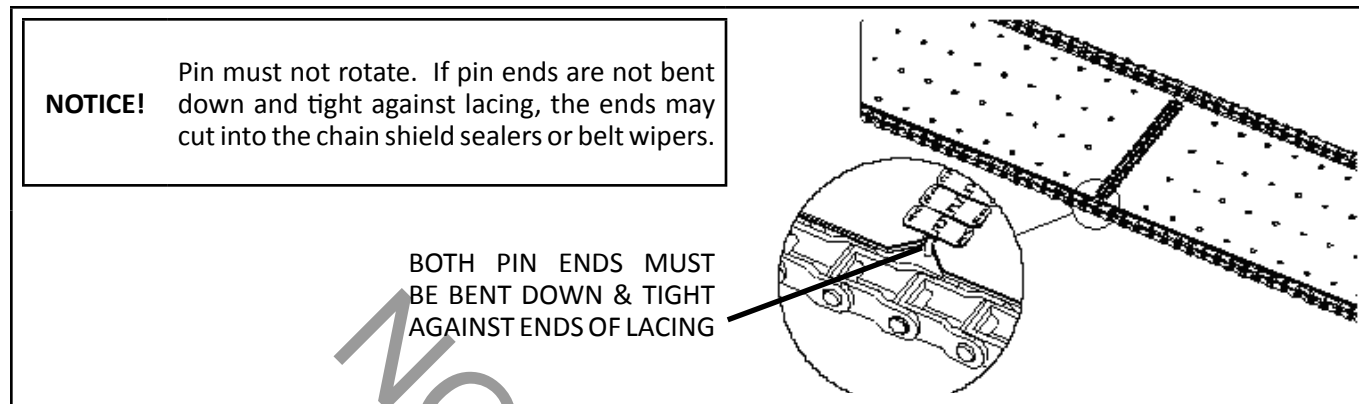

Figure 2 - Conveyor Belt Pin Installation
- Make sure belt connecting pin is positioned correctly as shown in Figure 2.